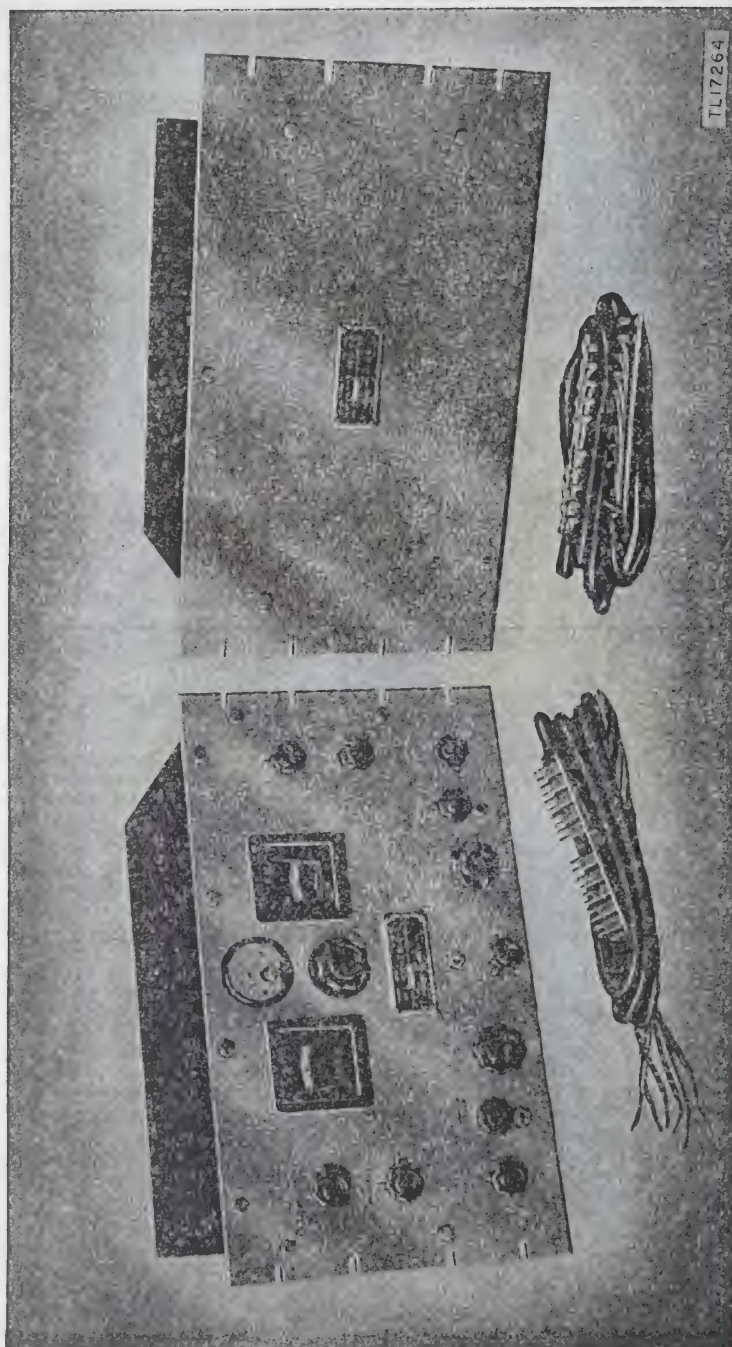

Figure 1. Radio Receiver BC-779-B with associated power supply.
b. The receivers use an external power supply. Both the receiver and power supply (fig. 1) are designed primarily for rack mounting in standard 19-inch relay racks, but the receiver may be used as a table model by placing it into Cabinet CH-104-A. In an emergency, the receiver can be operated from batteries.